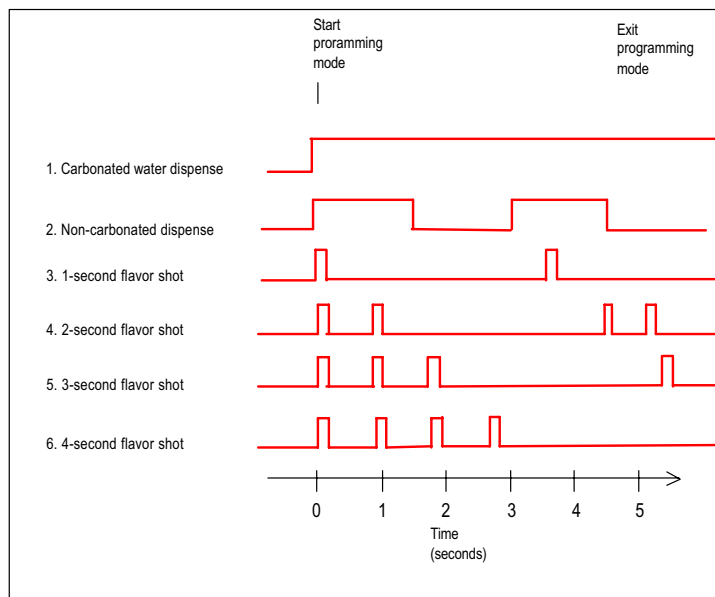

FIGURE 2
Once in programming mode, each dispense button LED flashes in a sequence cycle according to one (1) of six (6) dispense types. For Brand Keypads, only dispense types 1 and 2 are used. For Bonus Flavor Keypads, dispense types 3 through 6 are used. The six (6) dispense types are described below, and shown in a timing diagram in FIGURE 2:
- **Dispense Type 5, 3-second flavor shot:** LED flashes three (3) times for $\frac{1}{4}$ second ON, $\frac{1}{2}$ second OFF, followed by 3 seconds OFF
- **Dispense Type 6, 4-second flavor shot:** LED flashes four (4) times for $\frac{1}{4}$ second ON, $\frac{1}{2}$ second OFF, followed by 3 seconds OFF